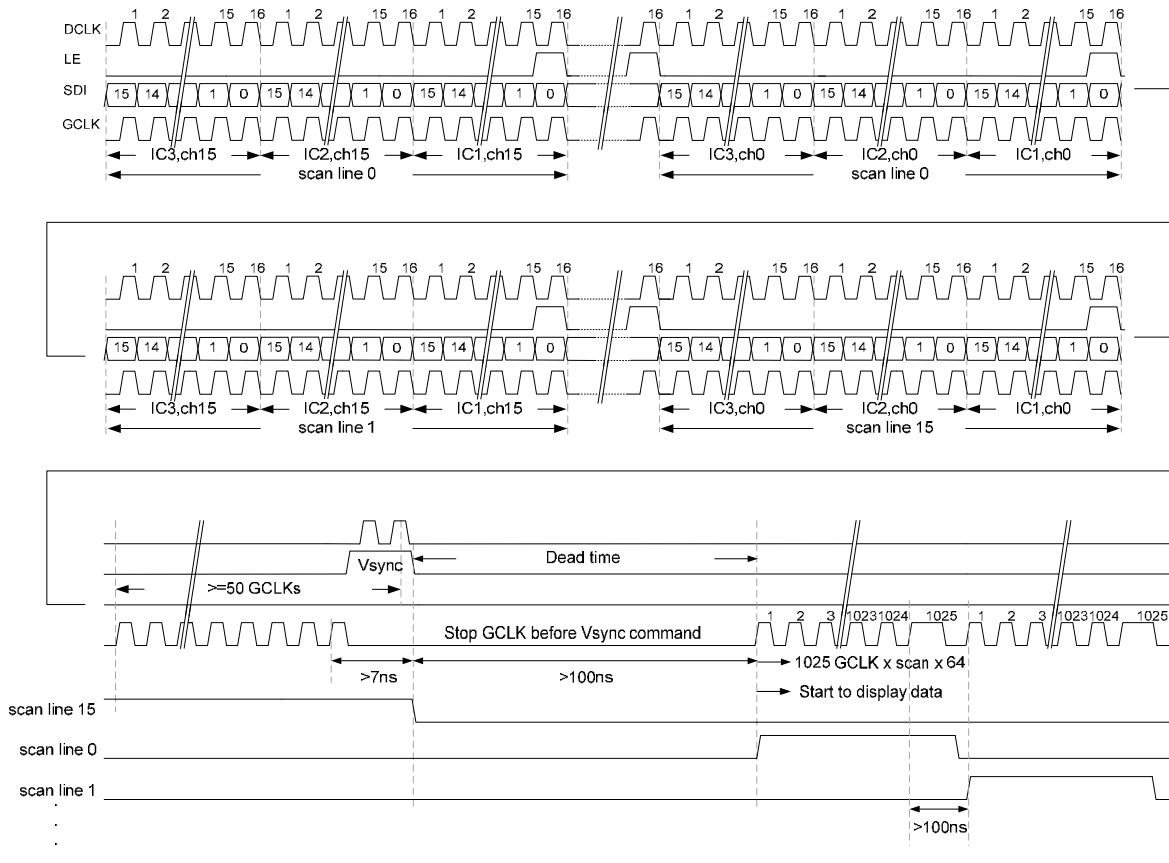

Figure 4. The timing diagram of 16-bit gray scale data
4. The data length of each channel is 16-bits, and the default PWM mode is 16-bits. The sequence of gray scale is $bit_{15} \rightarrow bit_{14} \rightarrow bit_{13} \dots \rightarrow bit_0$ as figure 4 shows. The 14-bits gray scale can be set through $Bit[7]=1$ in configuration register 1, and the sequence of gray scale data is $bit_{13} \rightarrow bit_{12} \rightarrow \dots \rightarrow bit_0 \rightarrow 0 \rightarrow 0$, the last 2-bits (LSB) are set to "0".